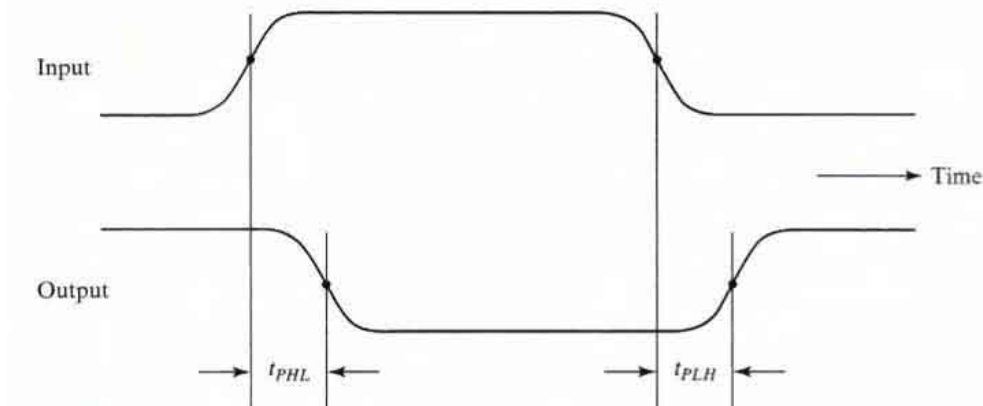

Fig 2. Measurement of Propagation delay
- Two propagation delays associated with a logic gate are shown in fig 2